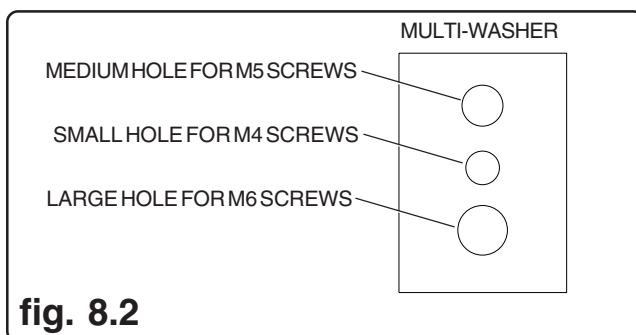

fig. 8.2
- Use the corresponding hole in the multi-washer that matches your screw size as shown in figure 8.2.